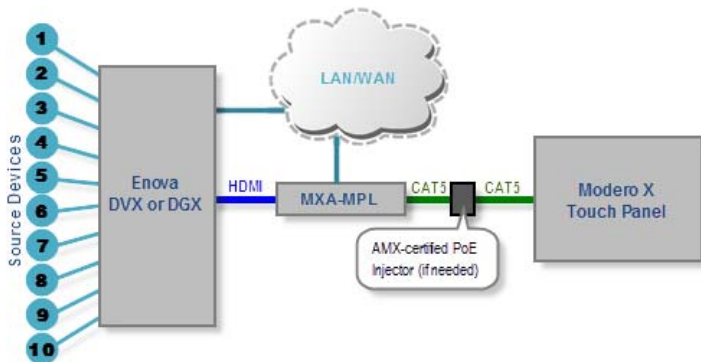

FIG. 5 INSTALLATION DIAGRAM - MXA-MP AND MXA-MPL
- DVI to S-Video Cable (FG10-2170-10) (FIG. 5).
FIG. 5 provides a basic installation diagram for the MXA-MPL: